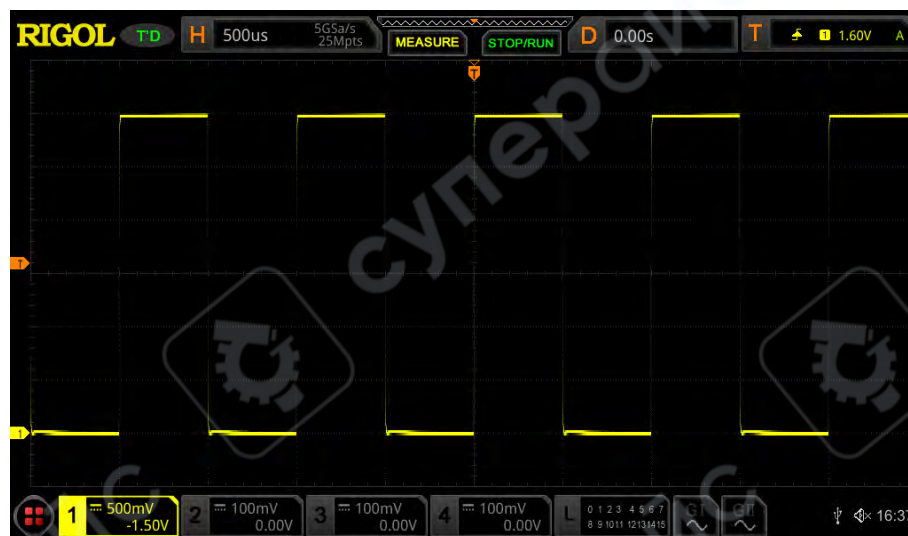

Figure 4.11 Square Waveform Signal
5. Observe the waveform on the display. In normal condition, the square waveform as shown in *Figure 4.11* should be displayed.